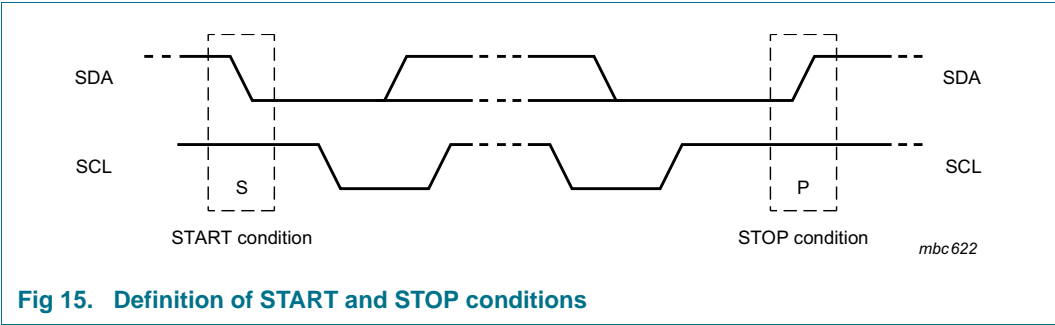

Fig 15. Definition of START and STOP conditions
Both data and clock lines remain HIGH when the bus is not busy. A HIGH-to-LOW change of the data line, while the clock is HIGH, is defined as the START condition (S). A LOW-to-HIGH change of the data line, while the clock is HIGH, is defined as the STOP condition (P). The START and STOP conditions are illustrated in Figure 15.